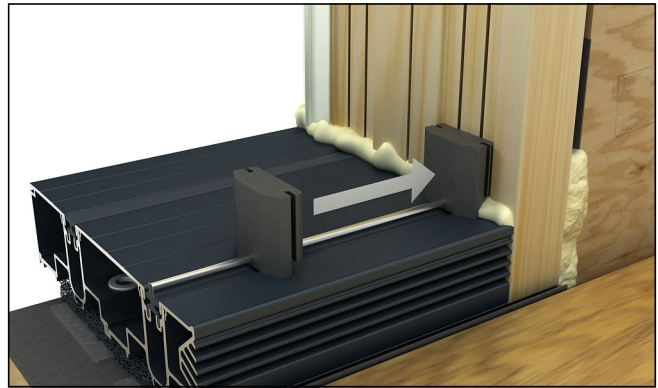

Figure 36
- At sill/jamb joints, apply foam seal into wet sealant at bottom of the jamb fitting notch over interior most sill track. Notch at back of foam seal must be completely filled with sealant. See figure 36.